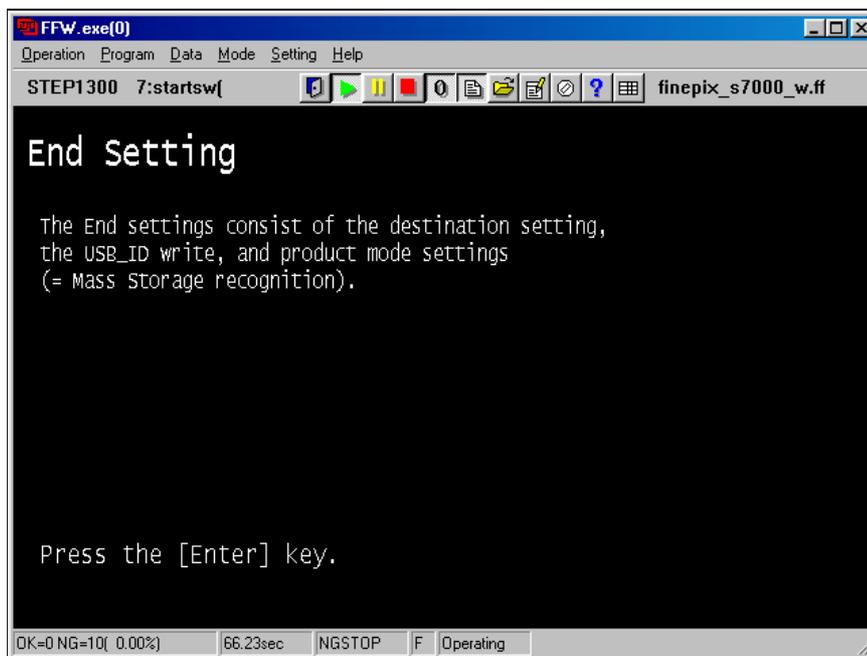

Fig.41
---> The **[End Setting Start Screen (Fig.41)]** is appears.
Follow instructions on the **[End Setting Start Screen (Fig.41)]**, and press the [Enter] key.